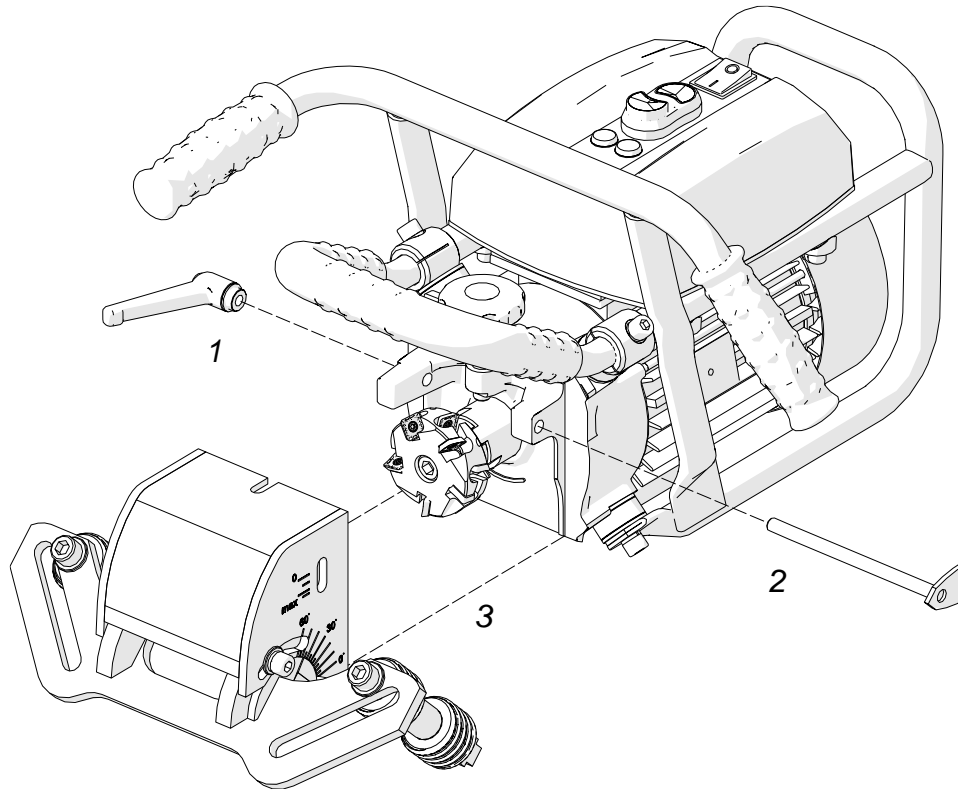

Fig. 12. Removing the milling head cover
Unplug the power cord from the power outlet, unscrew the lever (1, Fig. 12), and remove the indicator (2) and the milling head cover (3).
Remove the milling head cover as shown in Fig. 12. Next, lock the rotation of the spindle with the 32 mm flat wrench (Fig. 15), use the 8 mm hex wrench to unscrew the screw, and remove the milling head. The 32 mm flat wrench is not included in standard equipment.